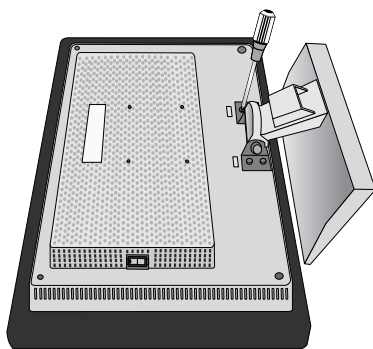

Figure R.2
4. Remove the 4 screws connecting the monitor to the stand and lift off the stand assembly (Figure R.2).